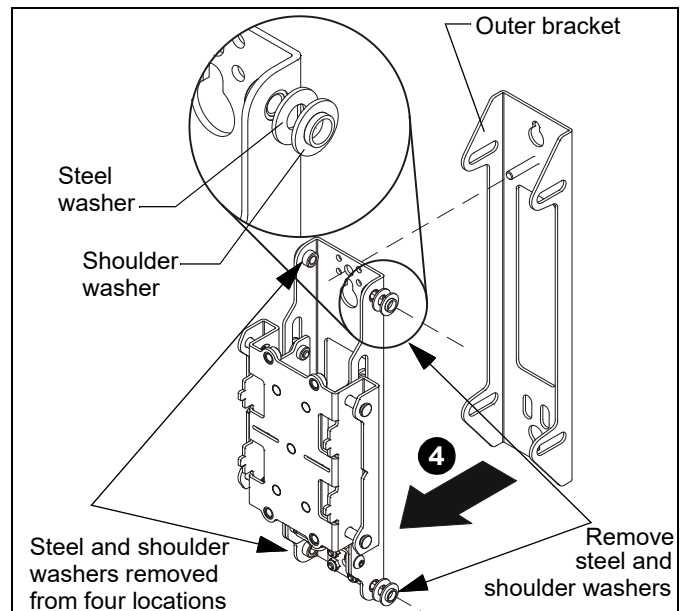

Figure 4
4. Remove wall upright assembly from outer bracket, while removing one shoulder washer and one steel washer from between outer bracket and wall upright assembly in four locations. (See Figure 4)